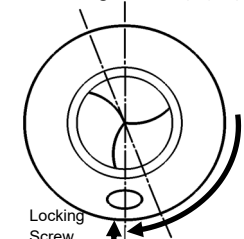

Fig. 8
- Position the front cover over the IPX cover in same orientation as it was removed. Lightly press front cover onto the fan and rotate clockwise. Refit the locking screw. (Fig. 8)